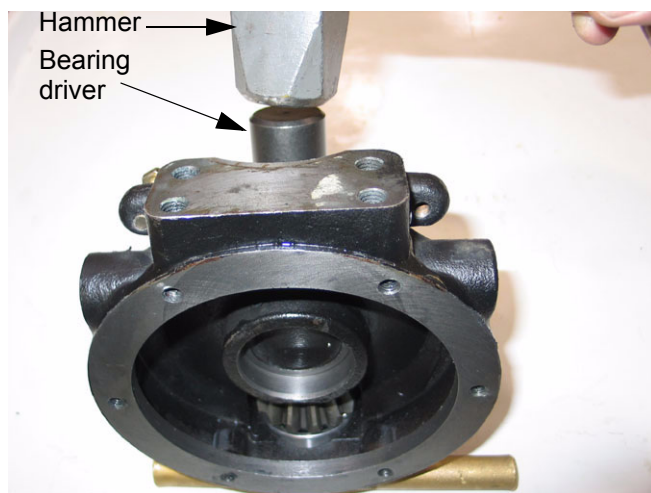

Figure 8.16
- 8.16. If the tapered roller bearing required replacement, drive or press the outer race of the new bearing into the bore at the top of the drop axle housing using an appropriate tool. See Figure 8.16.